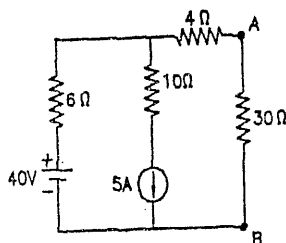

FIG. 1.193 : REFERENCE FIGURE FOR PROBLEM NO. 16
16. Using Norton's theorem, calculate the current through $30\ \Omega$ resistor in the given circuit of Fig. 1.193. [2.31 A]